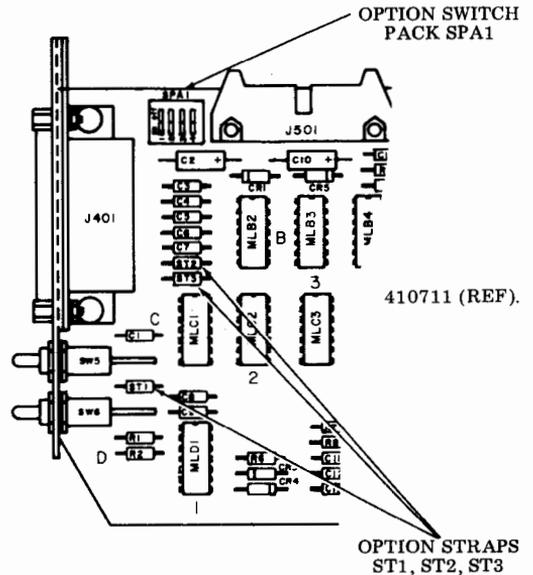

Fig. 8
- 5.03 Locate the option switch pack SPA1 and straps (ST1, ST2, ST3) (see Fig. 8 for location). Activate the variable features as required (see Fig. 9). Straps can be removed by cutting or unsoldering.